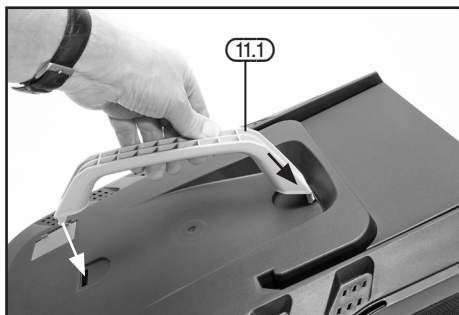

FIG.6
8.6 ATTACH HANDLE TO GRASS COLLECTION BOX – FIG.6